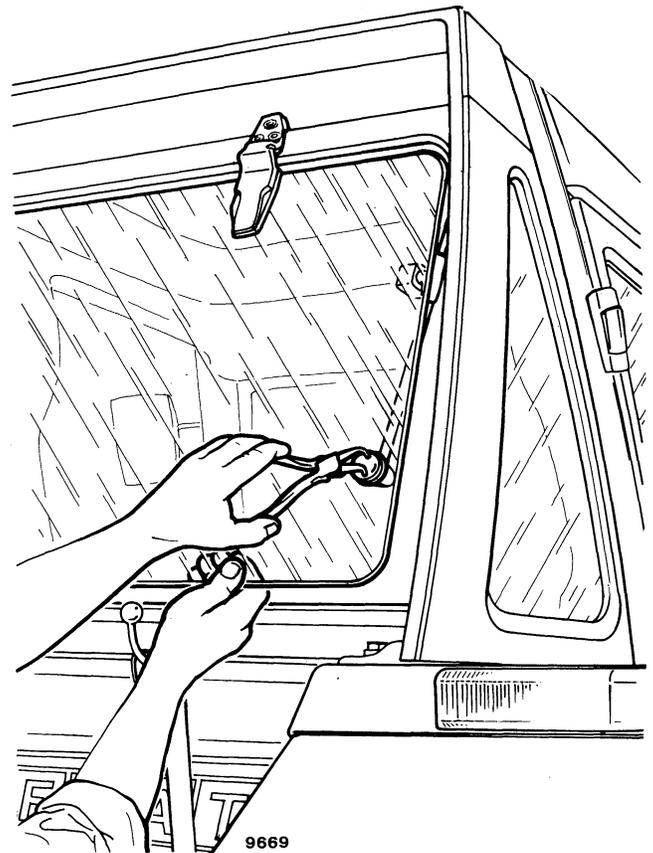

Fig. 4 - Disassembly - assembly of vertical rod lockrings
- Back off vertical rod lockring (Fig. 4).
- Connect vertical rods to glass tightening lockring (Fig. 4).
NOTICE - The glass must be pushed up as far as possible so as to obtain the max. gap possible between cab and glass lower contour and to facilitate the horizontal assembly of the glass. Connect the vertical rods to the glass tightening the associated lockrings (Fig. 4).